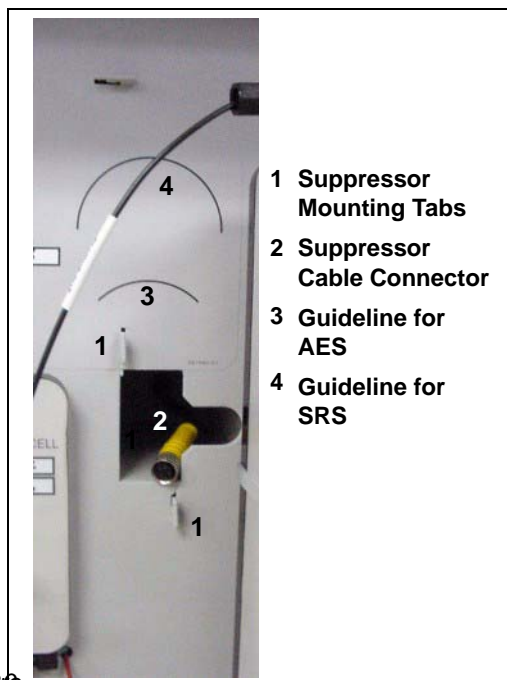

Figure 20
1. Locate the suppressor mounting tabs on the component panel (see Figure 20). Reach into the opening between the tabs and pull the yellow connector and attached cable slightly out of the opening.
5. Align the top of the suppressor with the guideline printed on the component panel (see Figure 20) and align the slots on the rear of the suppressor with the tabs on the panel.